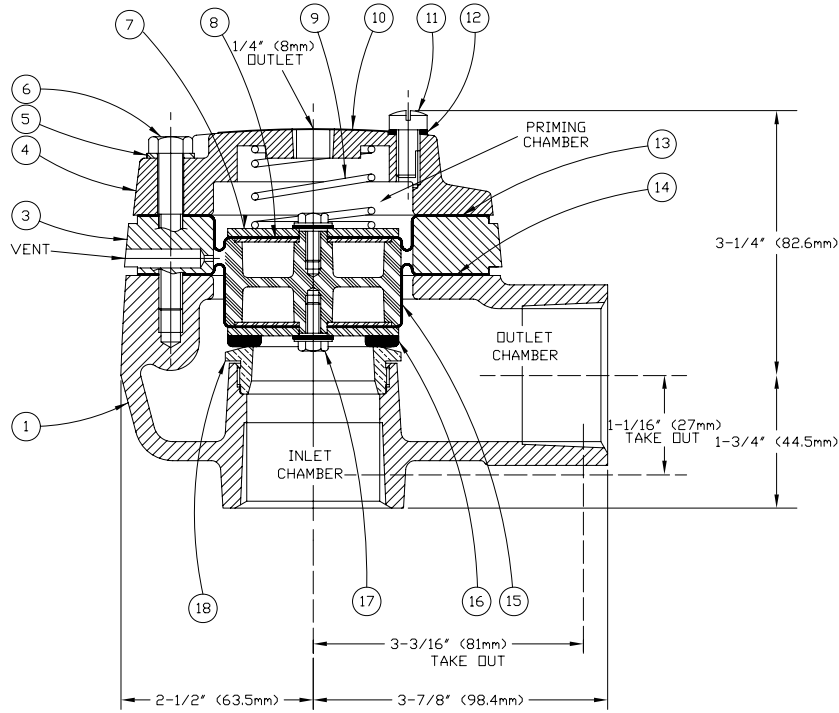

Figure 3 - Replacement Parts
2. Disconnect and remove necessary trim from the cover and remove cap screws (6). (Refer to Fig. 3)
3. Lift cover (4) from spacer (3)
4. Remove spring (9).
5. Remove spacer (3), and rolling diaphragm and clapper assembly (6-8, 13-17) from the body (1).
6. To replace the clapper assembly (16), remove screw and sealing-washer assembly (17). Install the new clapper assembly (16) and discard the old.
7. To replace the lower diaphragm (14) remove screw and sealing-washer assembly (17), and clapper (16). Install the new diaphragm and discard the old.
8. To replace the upper diaphragm (13), remove screw and sealing-washer assembly (17), and clamp plate (7). Install the new diaphragm and discard the old.
Reassembly: (Refer to Figure 3)